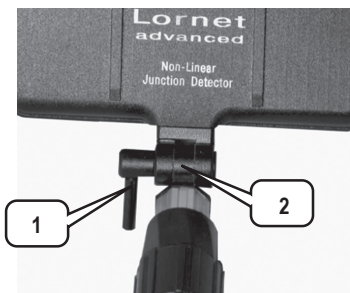

Fig. 3: 1- Fixing device; 2- Hinge joint.
4.2. Hinge joint of the transceiver antenna unit with a knob is designed to transform the unit into transportation position. (see Fig.3). Besides, it helps the operator to fix antenna in a position convenient for search work.